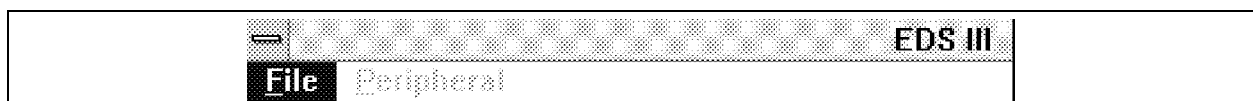

Figure 3-2
1. Locate the two menu items in the Menu Bar of the EDS III Application Window that is now showing on the monitor. Click on the "File" menu item in the Menu Bar (see Figure 3-2).